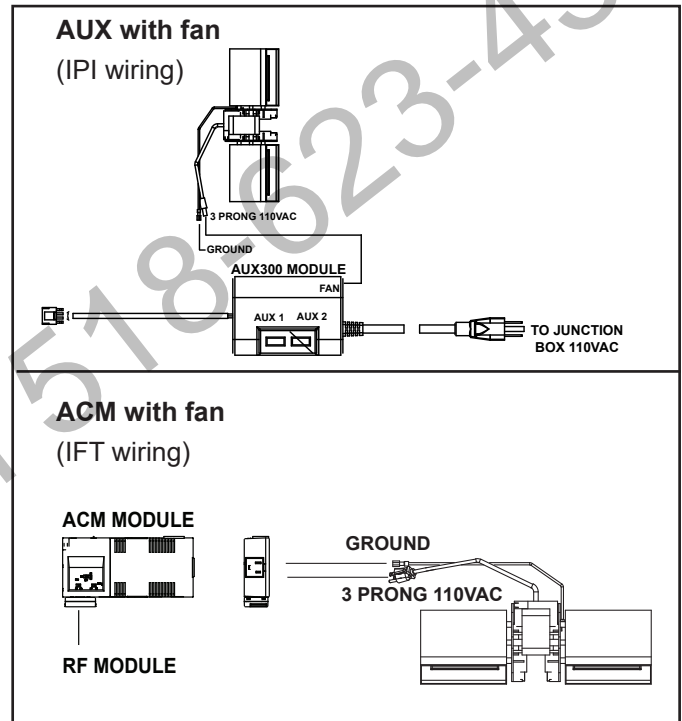

Figure 5 AUX/ACM Wiring
1. Plug the fan into the AUX or ACM module. See Figure 5.